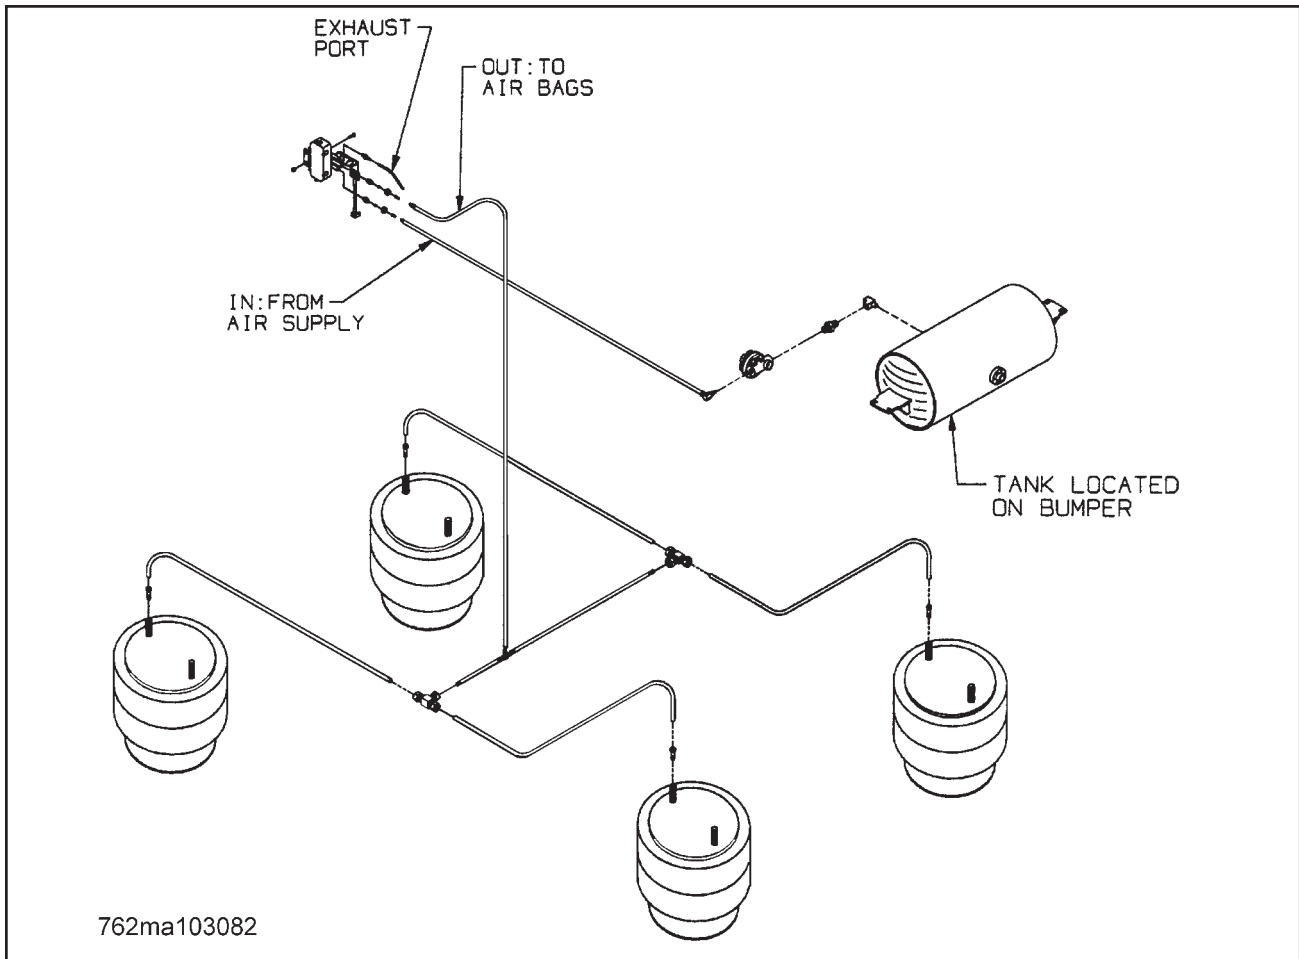

Figure 4-6 Tandem Axle Air Ride Suspension System
- See Figures 4-6 and 4-7 for Tandem and Triple Axle Air Ride Suspension drawings.